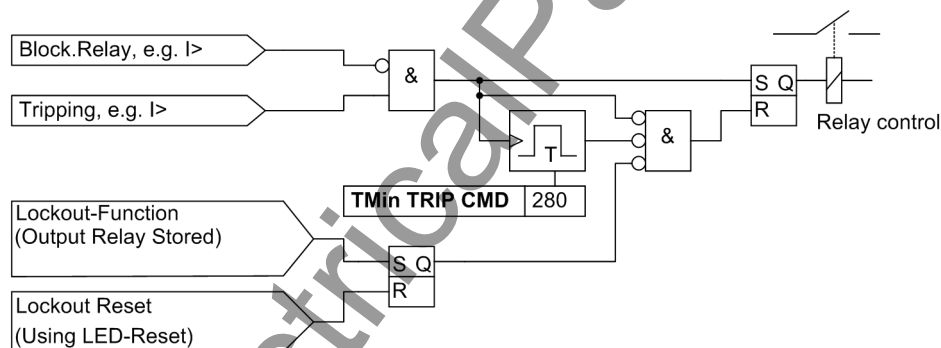

Figure 2-49 Terminating the Trip Signal, Example of a Protective Function
- A trip command once transmitted is stored (see Figure 2-49). At the same time, the minimum trip command duration **T TRIPCOM MIN** is started. This trip signal duration timer ensures the trip signal is transmitted to the circuit breaker for a sufficient amount of time, even if the function which issued the trip signal drops out quickly. The trip signal is only terminated after all protection Functions drop out AND the minimum trip signal duration expires.